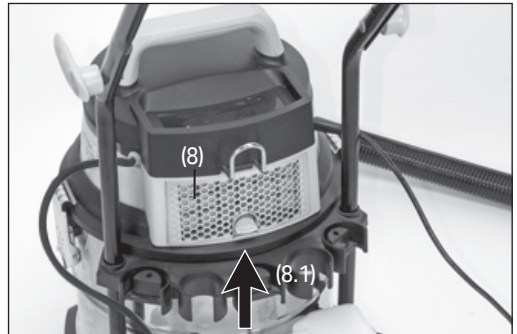

Fig. 26
11.2 Motor Housing Filter (Fig. 26)